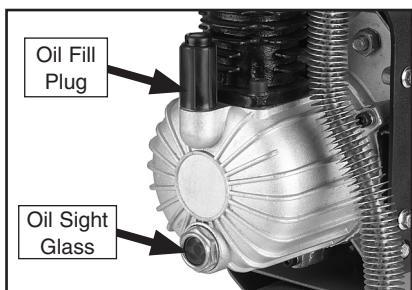

Figure 12. Oil sight glass.
- Use a box end wrench or a socket wrench to remove the oil sight glass shown in **Figure 12**.
- Replace the oil sight glass and remove the fill plug shown in **Figure 12**.